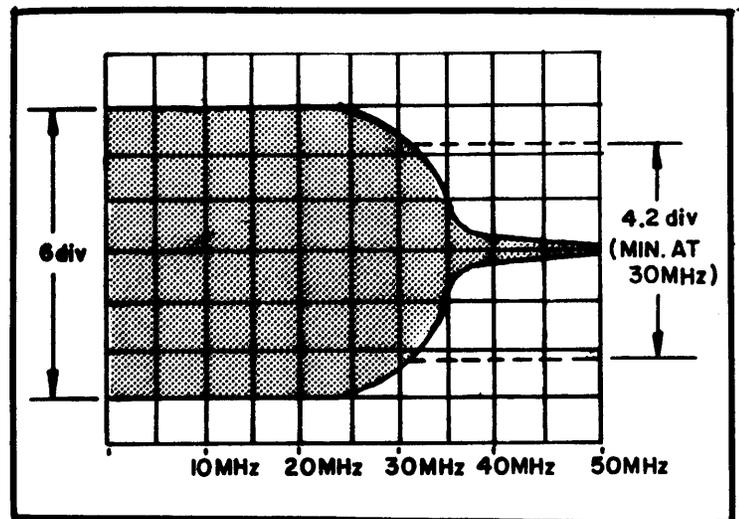

Fig. 22. Frequency Response Display.
5. Disconnect 100 kHz square wave generator and connect rf output of sweep generator to CH B input. Set generator to sweep from 1 kHz to at least 30 MHz with frequency markers each 5 MHz. A display similar to Fig. 22 should be displayed. Set sweep generator level for 6 divisions amplitude at lower frequencies. Repeat adjustments of step 4 for smooth roll off at higher frequencies and amplitude of at least 4.2 divisions (-3 dB) at 30 MHz.